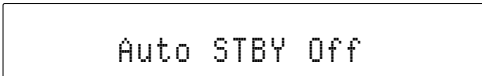

Figure 44
1. Using the MCD550 Remote Control, press and hold in the (Power) Push-button for about 5-10 seconds, at which time the Front Panel Display indicates "Auto STBY Off". Refer to figure 44.